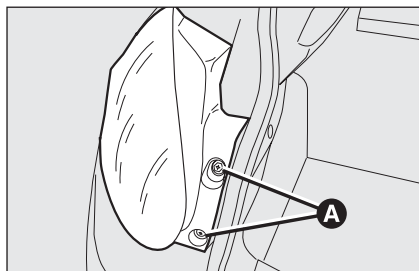

fig. 27
- ☐ open the tailgate then, slacken the two fastening screws **A-fig. 27**;